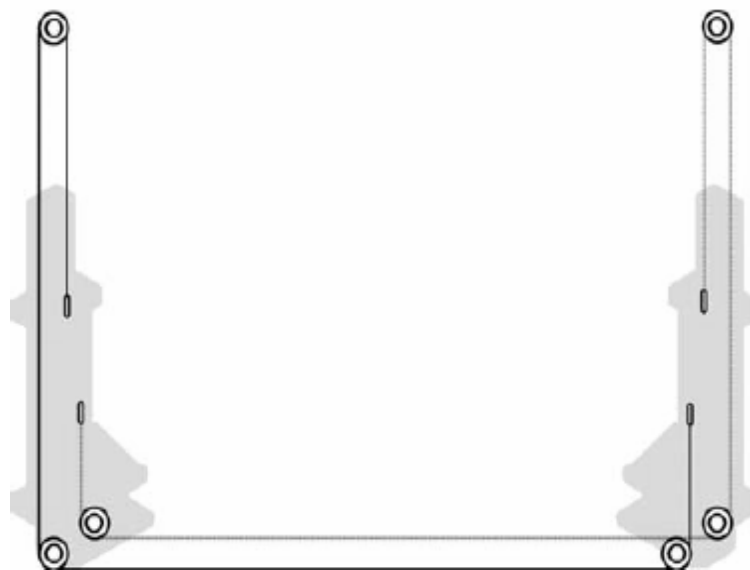

Fig 4- Cable Routing
- Route synchronizing cables using Fig 4 and attach ends to carriages' joining using Fig's 5.